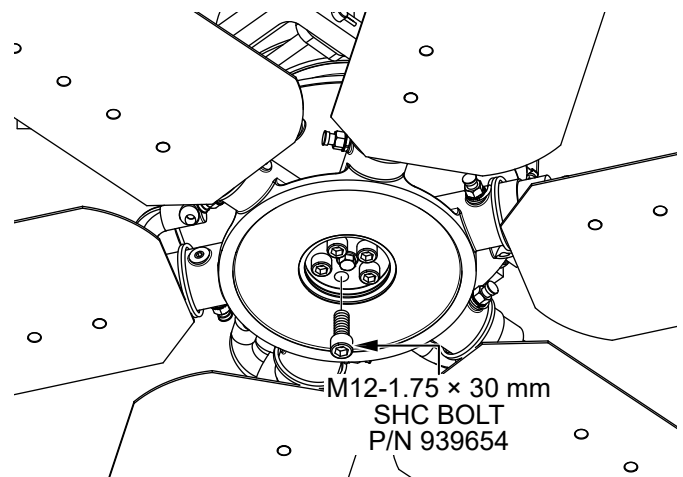

Figure 16. Install New Bolt (Spider)
- Install the new M12-1.75 × 30 mm SHC bolt (P/N 939654) as shown in Figure 16. Torque to 40 lbf-ft.